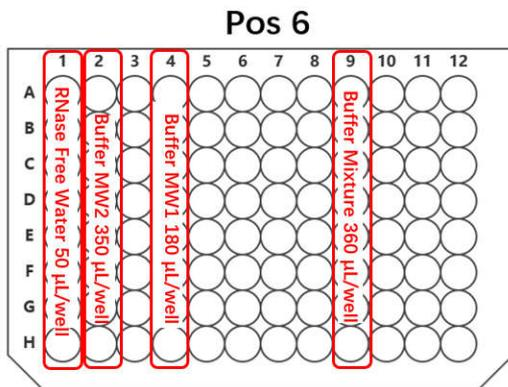

Figure E-1 Reagents layout for 8 rxn
4) Take out one 96 deep-well plates (MGI, Cat. No. 1000004644) and mark it. Add reagents according to Figure E-1 to E-4 and place at POS6.